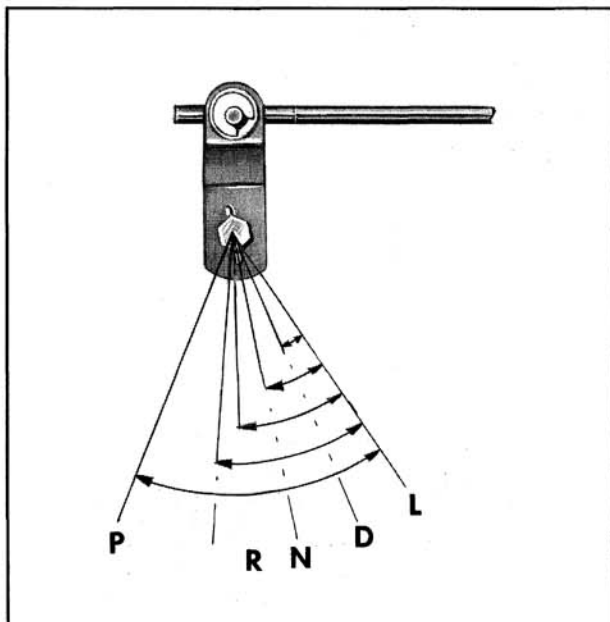

Fig. 12-120 Manual Lever
3. Position manual lever in "D" detent. (Fig. 12-120)